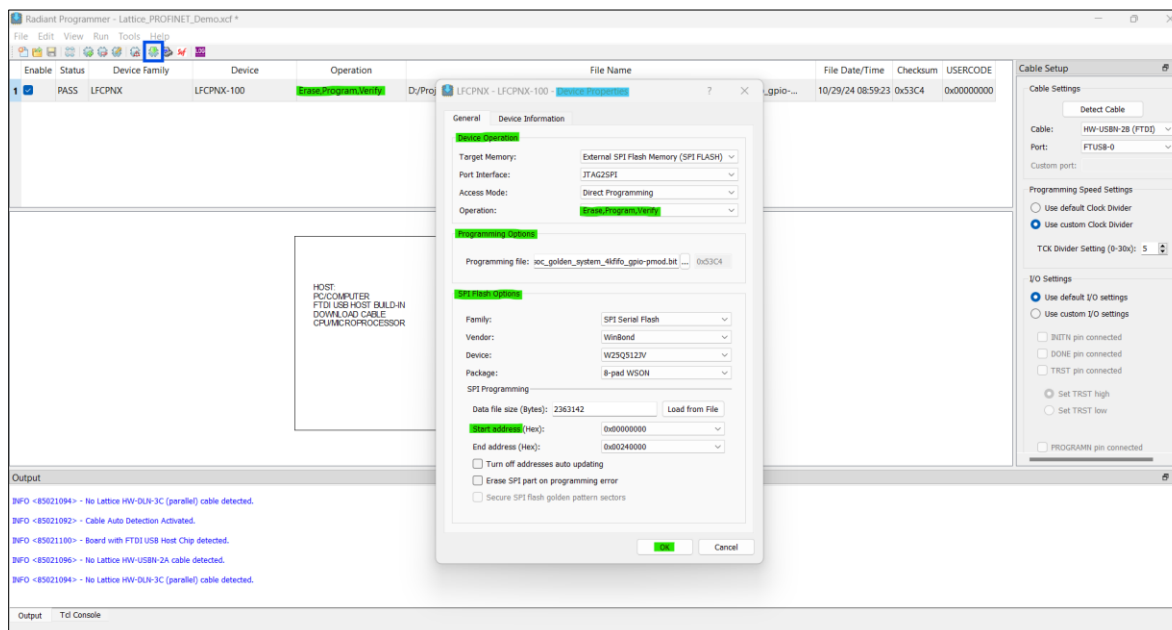

Figure 7.9. Configuring Bit File Programming for ADI MCB
9. Apply the settings for **Device Operation**, **Programming Options (Programming file)** and **SPI Flash Options** as shown in Figure 7.9.
3. Check the settings for Device Operation, Programming Options (Programming file) and SPI Flash Options as shown in Figure 7.9.